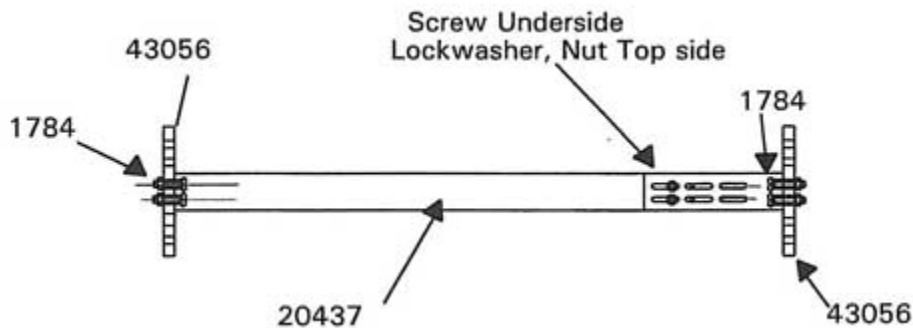

Figure 6-5 Assembly of Rack Mounts
5. Install both Rack Mounts to your Rack Unit using eight 10-32 x 0.5 PHP screws. Then slide the Model PRT73 into the Rack Mounts and secure the Model PRT73 to the Rack Unit with four 10-32 x 0.75 PHP screws. Refer to Figure 6-5.